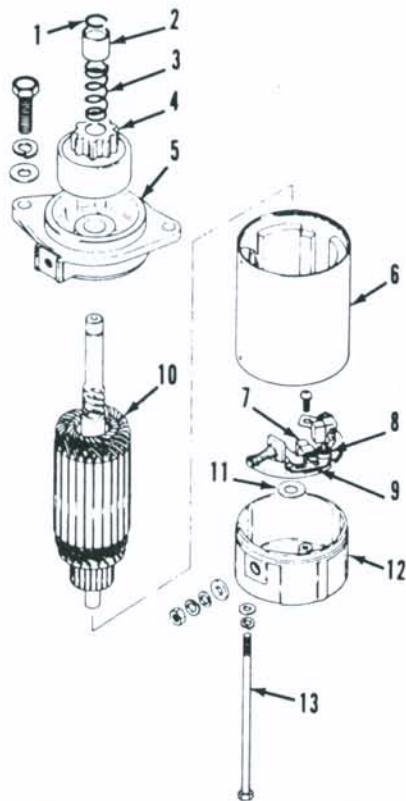

Fig. SZ11-18—Exploded view of electric start motor.
Some models are equipped with electric starter shown in Fig. SZ11-18. Disassembly is evident after inspection of unit and reference to exploded view. Standard commutator outside diameter is 30 mm (1.18 in.) and should be renewed if worn to a diameter of 29 mm (1.14 in.) or less. Starter brushes have a
standard length of 12.5 mm (0.492 in.) and should be renewed if worn to 9 mm (0.354 in.) or less. During reassembly, make sure upper and lower alignment marks on frame (6-Fig. SZ11-18) align with notches in frame head (5) and frame end (12). After reassembly, bench test starter before installing on power head.